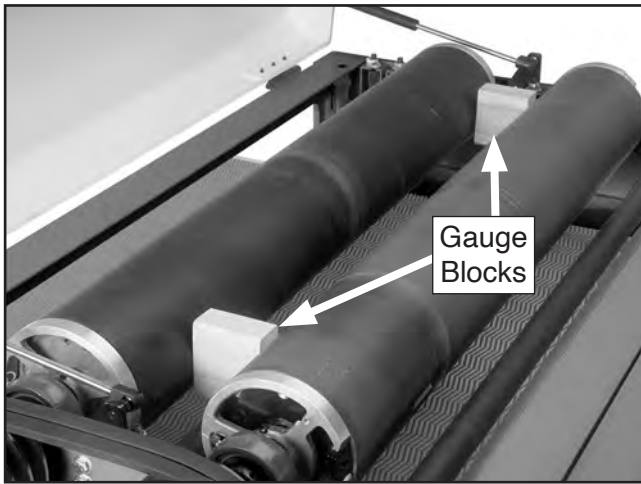

Figure 62. Example of small gauge block positioned between front and rear drums.
9. Place gauge blocks between drums at each end, as shown in **Figure 62**.